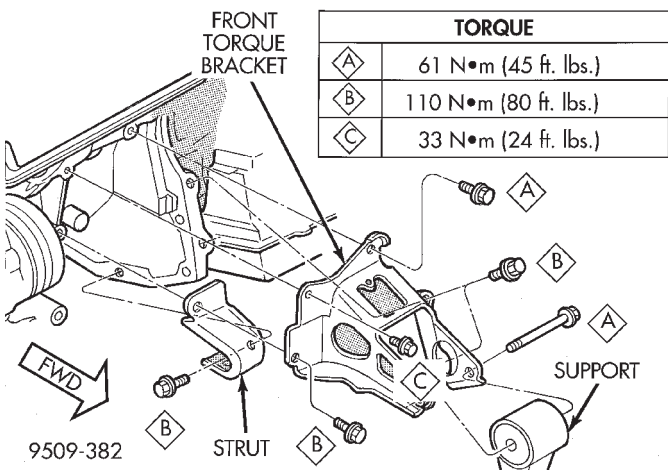

Fig. 27 Engine Mounting—Front 2.5L
(6) Tighten thru bolt at front mount see (Fig. 27) tighten to 61 N•m (45 ft. lbs.).